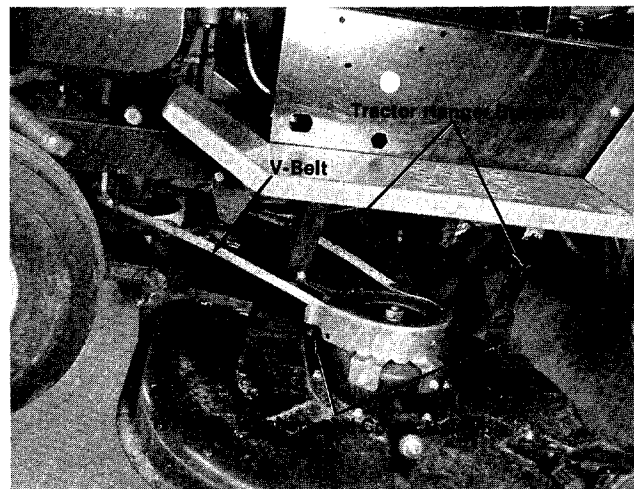

FIGURE 6
- Attach the four tractor hanger brackets to the deck with four 1/2" I.D. washers and four medium cotter hairpins. (See figure 6.)
The throttle control is located on the left side of the dashboard and is used to regulate the engine speed. (See figure 6.) The engine should be